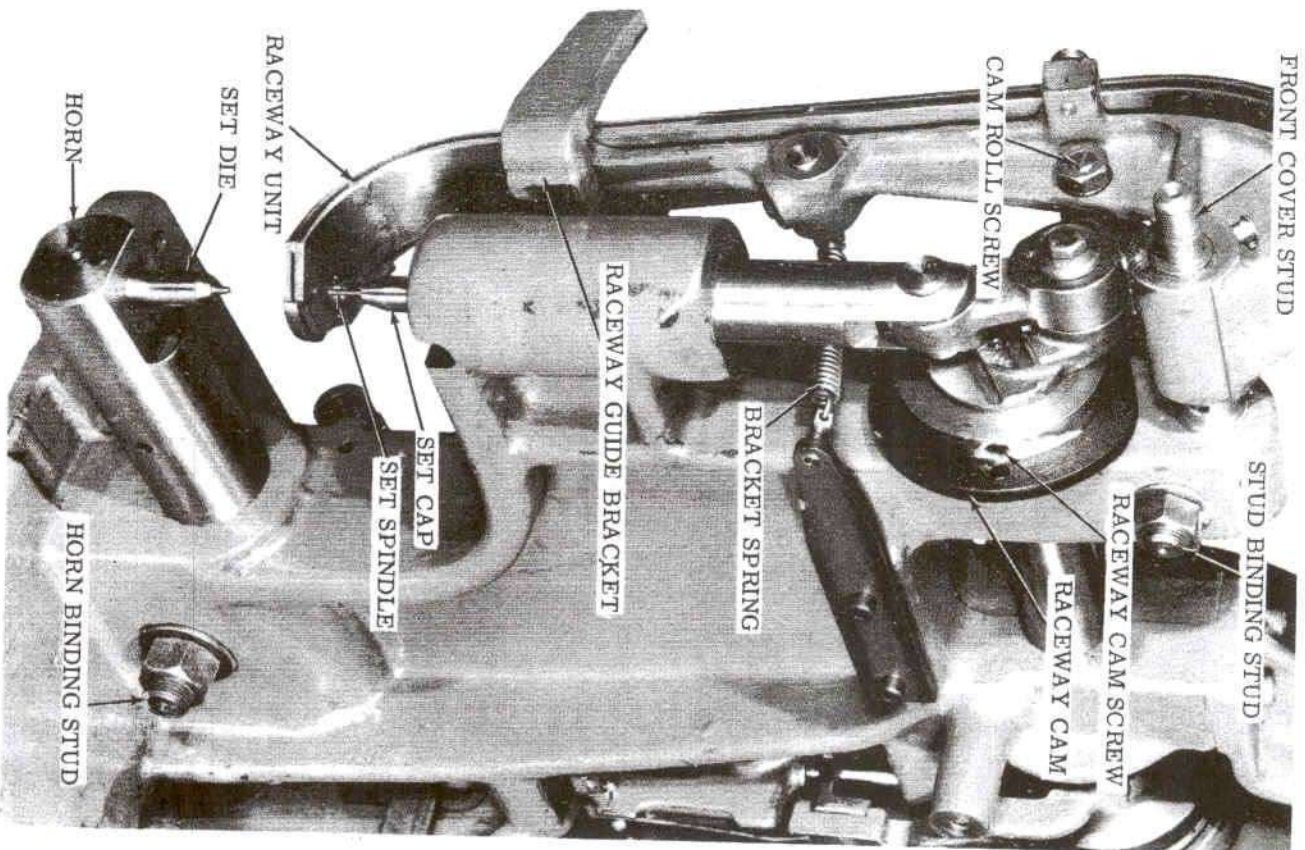
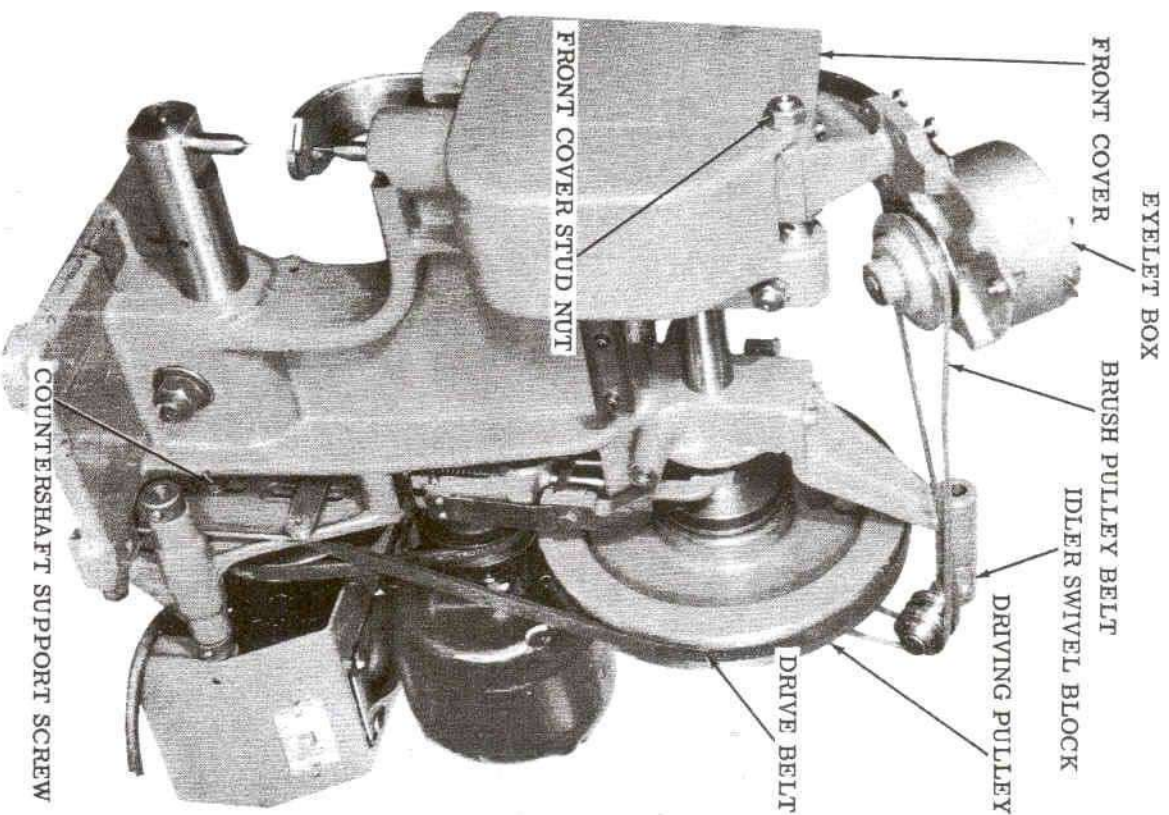

Figure 4 - Horn and Raceway - Front-right View
Figure 7 - Front-right View of Machine
B. Adjustments (See Figures 4 and 5)
(1) Loosen the horn binding stud nut NL-30M3 and the horn binding stud SDL-1321Y (Figure 4). You can now move the horn EMG-102 back and forth and turn it to the right or left to line up the die correctly. Tighten the stud nut.
(1) Loosen the front cover stud nut NL-24U2 (Figure 7), stud binding stud nut NL-24M2, and stud binding stud SDL-1320Y (Figure 4). Loosen the raceway
(2) Move the front cover stud EMG-189 and the raceway guide bracket forward or back to align the raceway with the set spindle. Keep the raceway in contact with the shoulder of the stud.
c. Turn the front cover stud to move the lower end of the raceway to the right or left so that there will be clearance between the spindle and eyelet at the right and left sides of the spindle. If the set cap clears the raceway but rotating the stud does not provide sufficient movement of the raceway, loosen the roll screw nut NL-64M and turn the cam roll screw EMG-206 (Figure 4), an eccentric, to obtain the desired setting. Tighten the nut.
c. If the set spindle has not passed through the eyelet by the time the raceway starts to move, the raceway cam EMG-204 (Figures 4 and 12) should be rotated clockwise to retard the timing of the raceway; or if the set cap contacts the raceway, the cam should be turned counterclockwise to advance the timing of the raceway.
9. Brush Pulley Belt (See Figure 7)
B. Replacement of Raceway and Raceway Bracket (See Figures 4 and 7)
C. Crankshaft (See Figures 7, 9, and 12)